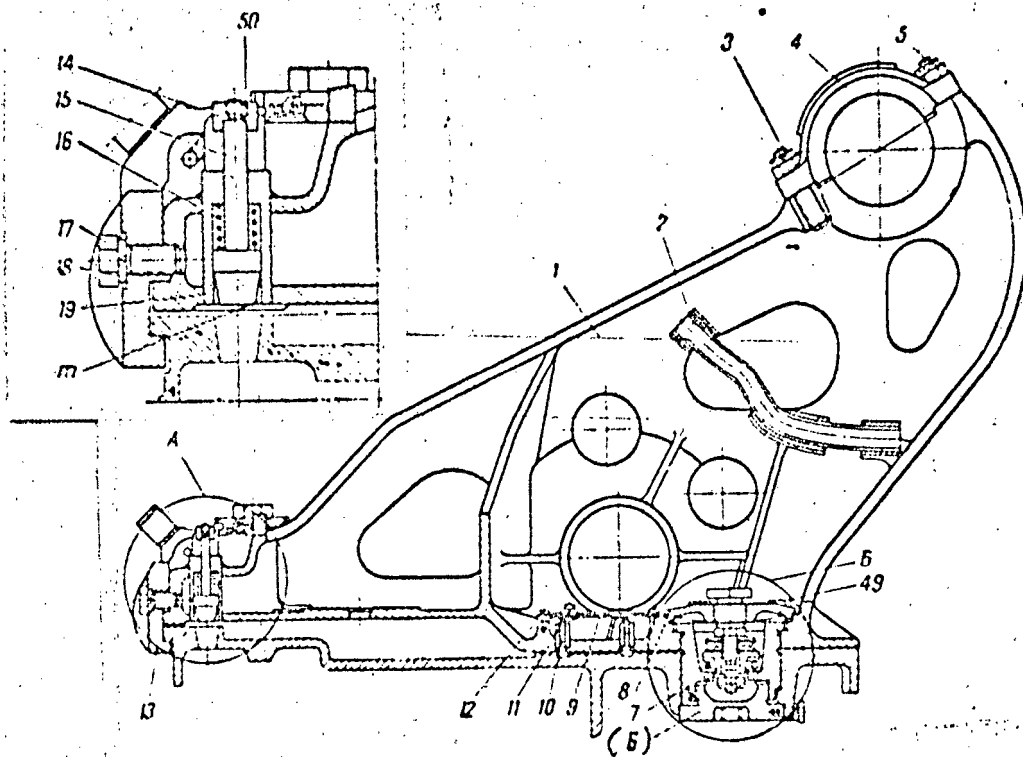

Fig 42. Top Carriage
Located at the front of the base are hole p, which is the seat of 50X1-HUM traversing-mechanism box, two holes s under housing 47 of the roller box, hole t under cup 19 (Fig. 42) of the locking device for fastening the top carriage in traveling position, and cutout u (Fig. 38) for weight reduction.
Pivot bearing 7 and front holding device 13 (Fig. 42) connect the top carriage with the bottom carriage.
- disconnect from holding device 13 (Fig. 42) the tube connecting the equilibrator cylinders;
- unscrew adjusting bolt 20 (Fig. 42) two or three turns with wrench 42-250;
- pull the locking device up and unscrew hand lever 14 (Fig. 42) after unscrewing screw 50;
- insert locking device 15 (Fig. 42) with the spring in cup 19;
- place plate springs 22 on thrust washer 23 (Fig. 42); insert bolt 21, and place washer 25;